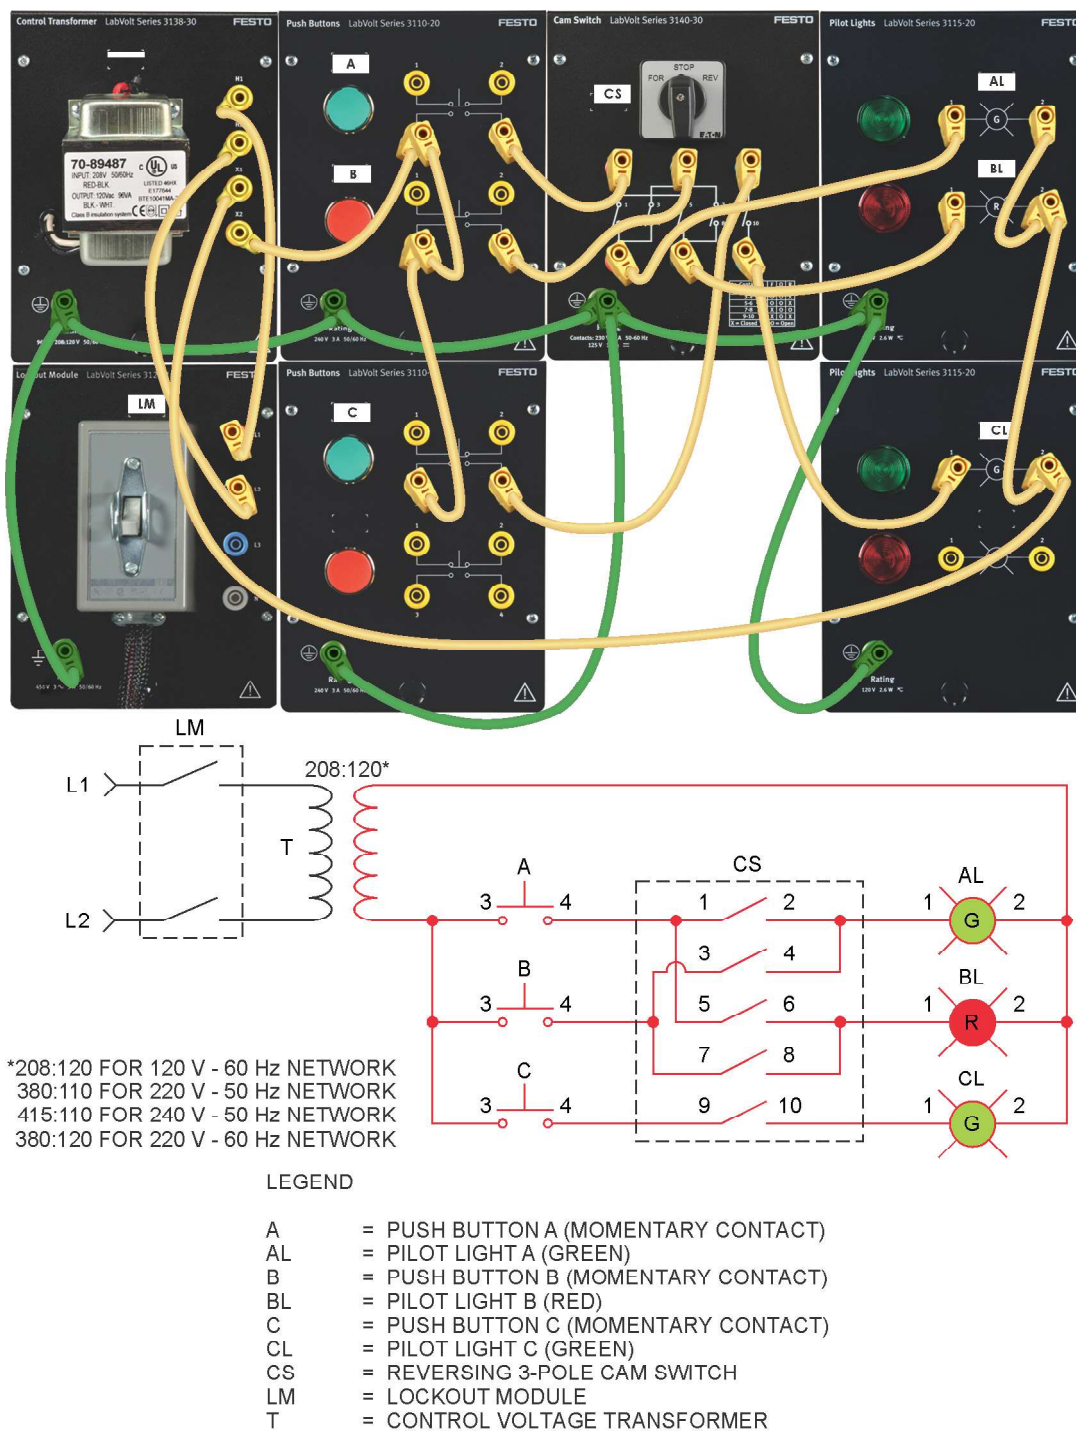

Figure 1-12. Cam Switch reversing circuit.
**16.** Connect the circuit shown in Figure 1-12.